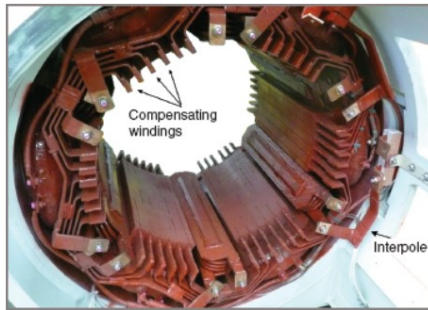

**Figure 6** Interpole connections
**Figure 6** shows the polarities of the interpoles for a motor or generator being driven clockwise.